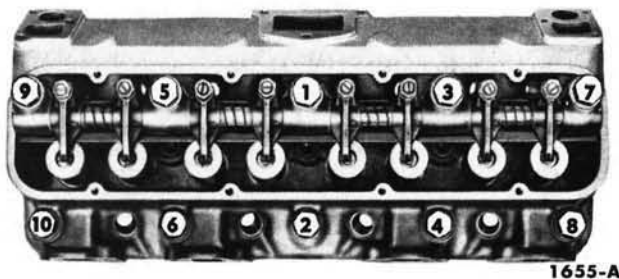

FIG. 26—Cylinder Head Bolt Tightening Sequence
5. The cylinder head bolt tightening procedure is performed in three progressive steps. Tighten the bolts to 110-120 foot-pounds torque in the proper sequence (Fig. 26), then tighten them to 120-130 foot-pounds torque in the same sequence. Finally, tighten the bolts to 130-150 foot-pounds torque in the same sequence. **After the cylinder head bolts have been tightened to specifications, the bolts should not be disturbed.** Per-